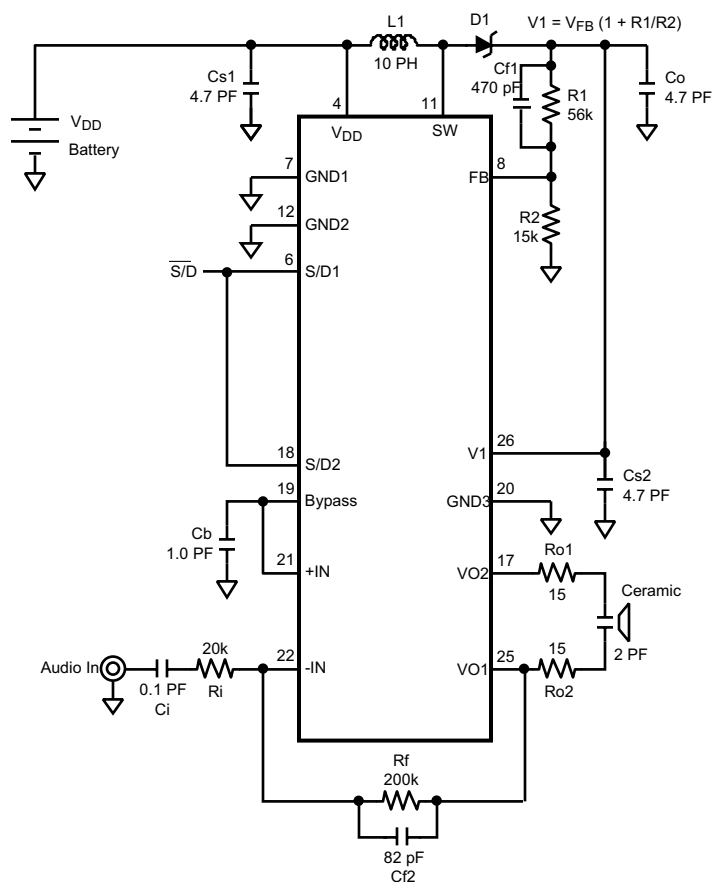

Figure 2. Typical Audio Amplifier Application Circuit
The following specifications apply for $V_{DD} = 4.2V$, $A_{V-BTL} = 26dB$, $Z_L = 2\mu F + 30\Omega$, $C_B = 1.0\mu F$, $R_1 = 56k\Omega$, $R_2 = 15k\Omega$ unless otherwise specified. Limits apply for $T_A = 25^\circ C$. See Figure 2.
(8) Feedback pin reference voltage is measured with the Audio Amplifier's V1 (pin 26) floating and no addition load connected to the cathode of D1 (see Figure 2).
- (1) All voltages are measured with respect to the GND pin, unless otherwise specified.
- (2) *Absolute Maximum Ratings* indicate limits beyond which damage to the device may occur. *Operating Ratings* indicate conditions for which the device is functional, but do not guarantee specific performance limits. *Electrical Characteristics* state DC and AC electrical specifications under particular test conditions which guarantee specific performance limits. This assumes that the device is within the Operating Ratings. Specifications are not guaranteed for parameters where no limit is given, however, the typical value is a good indication of device performance.
- (3) Typicals are measured at $25^\circ C$ and represent the parametric norm.
- (4) Limits are guaranteed to Texas Instruments' AOQL (Average Outgoing Quality Level).
- (5) Datasheet min/max specification limits are guaranteed by design, test, or statistical analysis.
- (6) Shutdown current is measured at an ambient temperature of $25^\circ C$. The Shutdown pin should be driven as close as possible to V_{IN} for minimum shutdown current.
- (7) Shutdown current is measured with components R1 and R2 removed.
- (8) Feedback pin reference voltage is measured with the Audio Amplifier's V1 (pin 26) floating and no addition load connected to the cathode of D1 (see Figure 2).